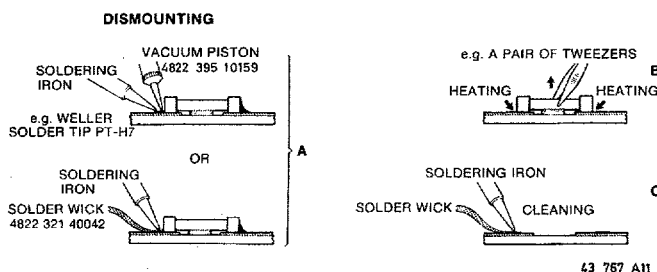

Fig. 2
- Heat the solder (for 2-3 seconds) at each terminal of the chip. Small components can, by means of litz wire and a limited horizontal force, be removed with the soldering iron. They can also be removed with a solder sucker (see Fig. 2) or